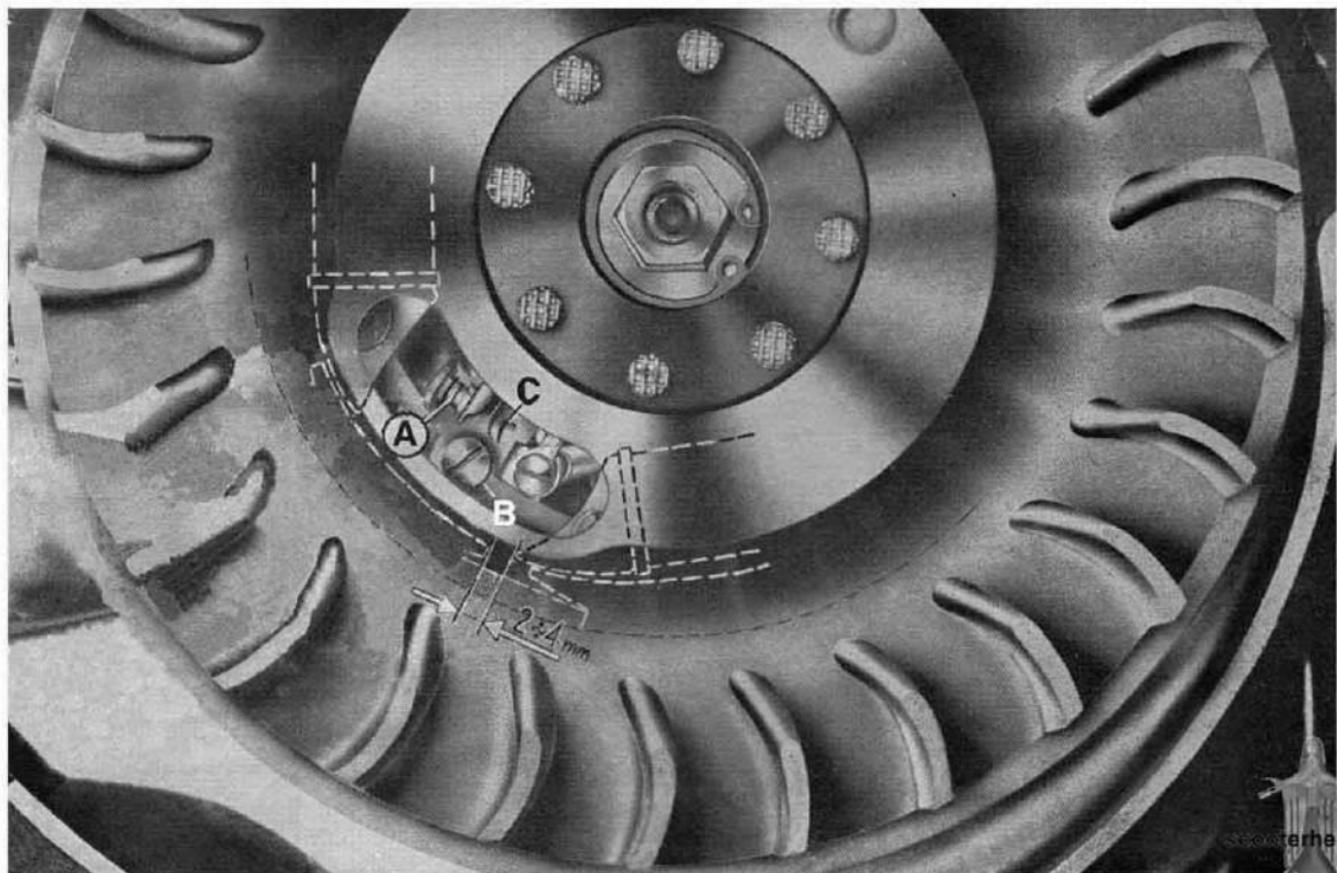

Fig. 16 - Operations for checking the <magnetic> timing of the wheel.
| <p>CHECKING AND SETTING THE FLYWHEEL MAGNETIC TIMING</p> | <ol style="list-style-type: none"> <li>1) Selector in neutral, take off the rubber plug located on the rotor and rotate it by hand until the contact breaker unit (fig. 16) is seen through the hole of the flywheel rotor.</li> <li>2) At the position indicated in the figure the contact breaker points « A » should start to open, i. e. when the extremity of the coil is at a distance of <math>2 \div 4</math> mm. (<math>0.078'' \div 0.15</math>) from the respective pole shoe.</li> <li>3) By rotating again the rotor by hand, the max. opening should be between the limits 0.3 to 0.5 mm. (<math>0.011''</math> to <math>0.019''</math>).</li> <li>4) If the conditions as per points 2) - 3) are not obtained, unscrew the screw « B » and rotate the cam « c » until for-said conditions are obtained.</li> </ol> | <p>In order not to disturb ignition timing, do not slacken the stator plate or coil securing screws.</p> <p>If necessary to adjust the spark advance, consult the Service Station.</p> <p>Ensure screw is tightened having finished the operation.</p> |
- 3) - Clean, and if necessary, register the contact breaker point (fig. 16). To avoid a faulty ignition or some other defects, **consult your Service - Station for this operation.**